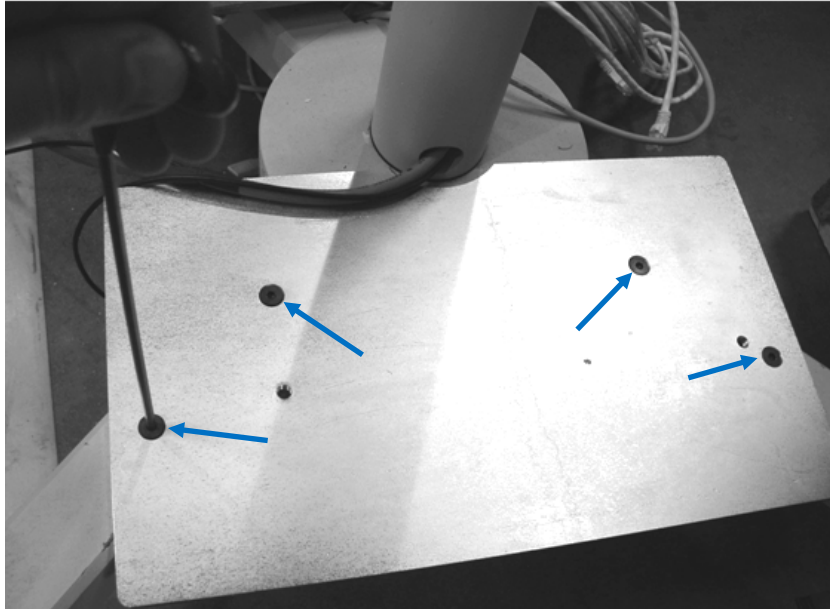

Figure 32: Replacing of the Mounting Plate
4. Replace the Mounting Plate, Control (30-M0049) with the provided one by using a 4 mm hex wrench unscrewing the 4 Flat Head Socket Cap Screws as shown on Figure 32.